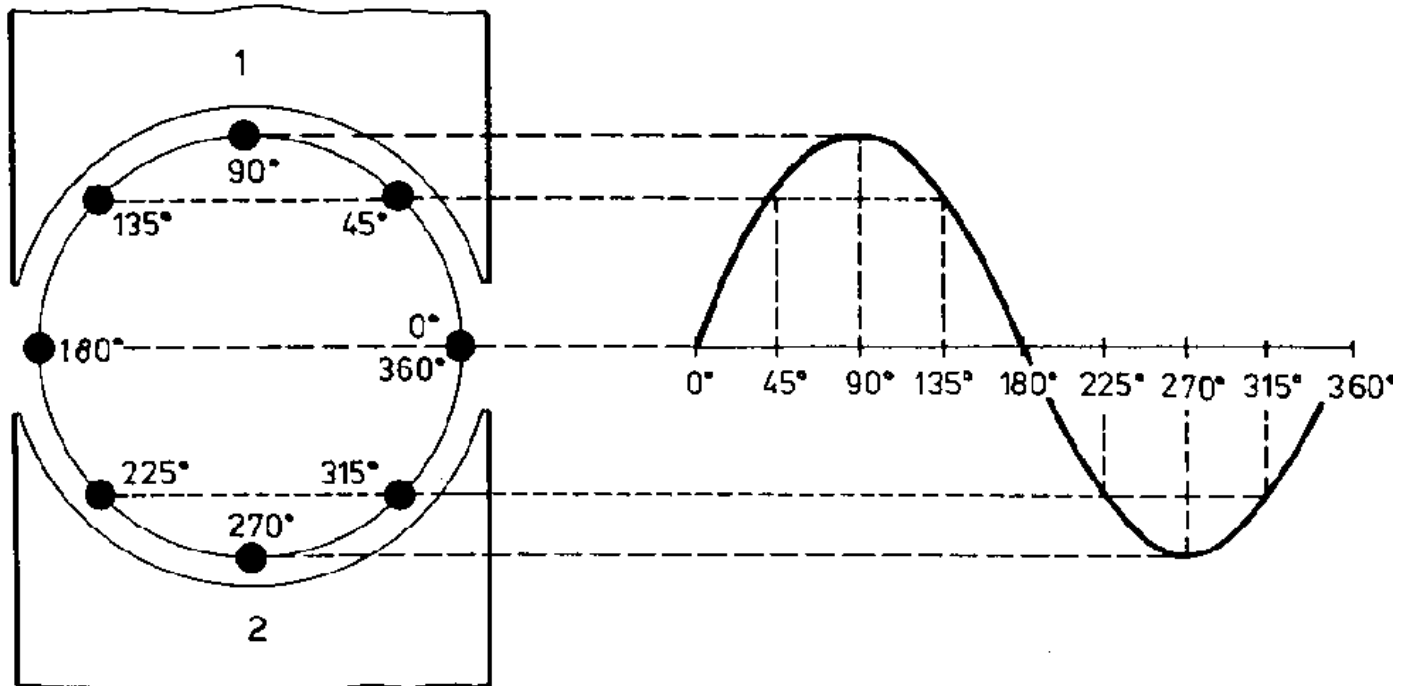

Fig. 7.2. Development of a sinusoidal voltage or current curve
dropped to zero and another cycle with exactly the same course can begin. In Fig. 7.2., the described conditions are shown for eight selected positions of the conductor. The behaviour of the curve is a sine function.
The voltage and current course represented in Fig. 7.2. is called oscillation, cycle or wave. Each wave is made up of a positive (1) and a negative (2) half wave. The time for a full revolution of the conductor loop is called time of oscillation or duration of a cycle (formula sign T). The angular velocity at which the conductor loop rotates is the angle through which the loop has passed in a certain unit of time. With a perigon of $360^\circ = 2\pi$, the duration of a cycle T is required. The angular velocity ω is usually called angular frequency ω ¹⁾ in electrical engineering and it is written as
The magnitude of the alternating voltage or the alternating current can be determined on the basis of the sine curve developed in Fig. 7.2. The maximum value occurring at 90° and 270° is called peak value, maximum value or amplitude and is designated by (or). All other values which vary continuously and, thus, are different at any time are called instantaneous values and are designated by u (or i).